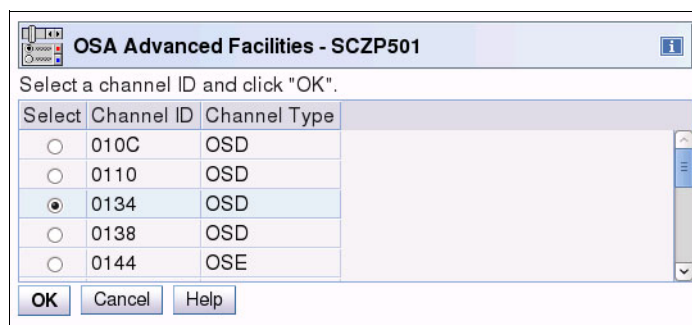

Figure 14-97 OSA Advanced Facilities: PCHID selection
2. Select the PCHID of the OSD channel for which you need to set the card mode. For the example, we select PCHID 0134 on SCZP501 (Figure 14-97).